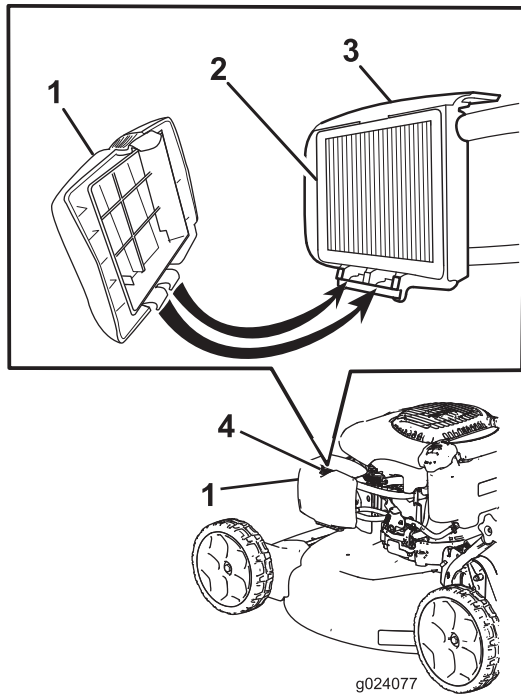

Figure 19
2. Press the button on the air-cleaner cover (Figure 19) and open the cover.